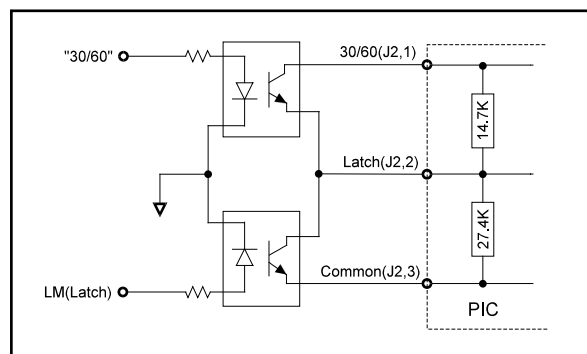

Figure 6: "30/60" and LM Remote Control
This is the input for selecting the Hall signal format. The default (pin J2/1 open) is 60°. Shorting pin J2/1 to pin J2/2 (LM) changes the selected Hall format to 30°. For permanent selection, use a simple short; for remote selection, use the scheme shown in Figure 6.